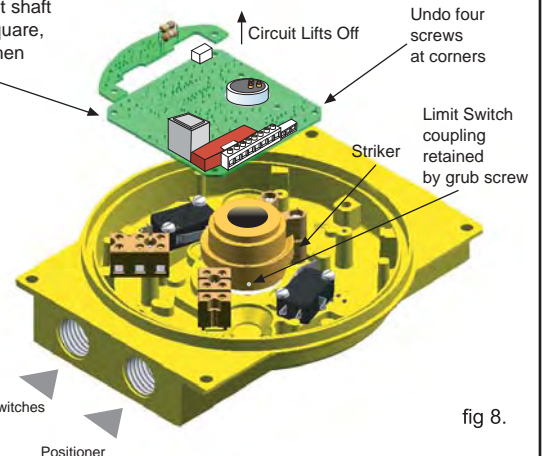

fig 8.
- 2 - Swap over the terminals for the brown wires from solenoids A and B; after this procedure, the brown wire from solenoid A should connect to terminal 6, and that from solenoid B to terminal 8 (refer to figure 8).
- 3 - Swap over the terminals for the green and yellow wires from the feedback potentiometer; after this procedure, the yellow wire should connect to terminal 13, and the green to terminal 14 (refer to figure 8).